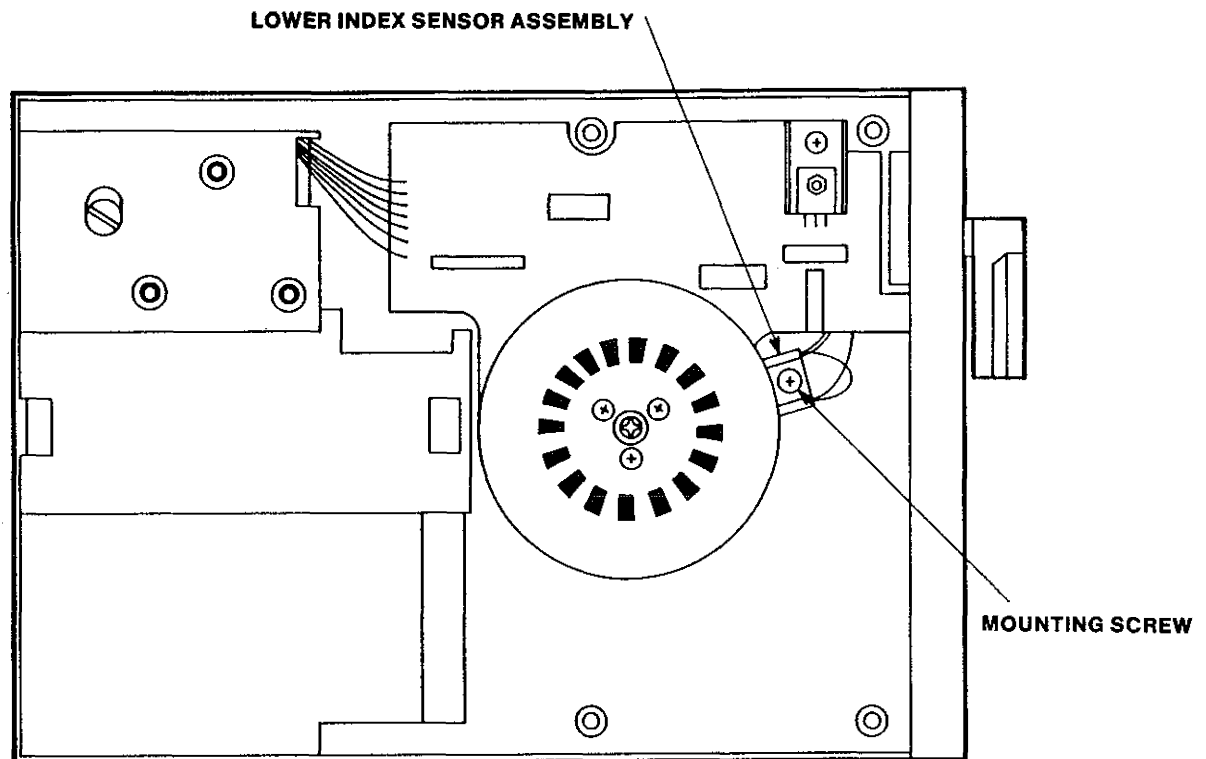

FIGURE 6-15
6. Remove the left guide rail by pushing in on the center tab of the rail, and push the rail out (Figure 6-15).